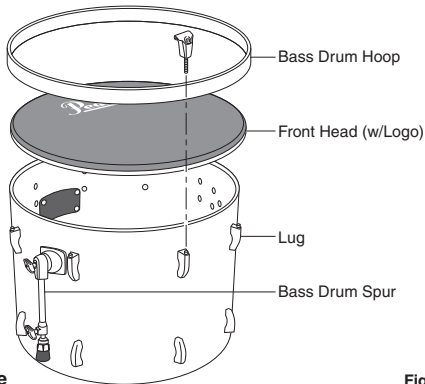

Fig.1
- Place the shell on a clean, solid surface with the Bass Drum Spurs and the Tom Holder Bracket facing upward. Put the Front Head with Logo on the shell then attach the Hoop with flat side down on the rim of the head (Fig.1).